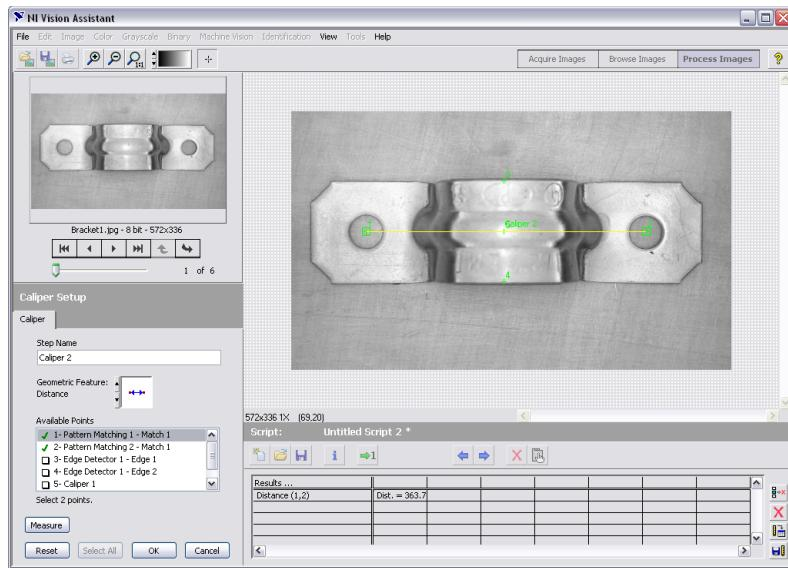

Figure 4-7. Using the Caliper Function to Find Bracket Distance
- Click **Measure** to compute the distance between the bracket holes. The distance measurement is added to the results table, as shown in Figure 4-7.